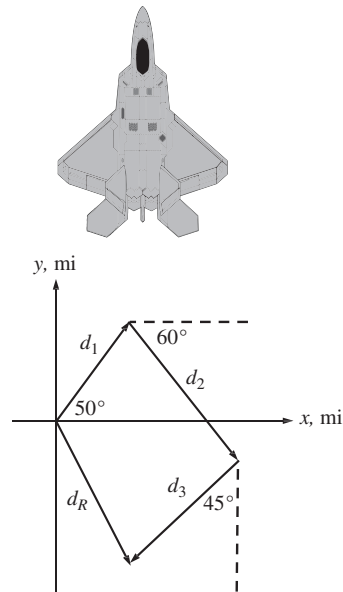

Figure P4.17 Position of an F-22 fighter jet.
- 4-17.** An F-22 fighter jet charts a course that has three different legs, as shown in Fig. P4.17. In the first leg, it flies 50° north-east a distance of $d_1 = 400$ miles. In the second leg, the jet flies 60° southeast a distance of $d_2 = 500$ miles. In the third leg, the jet heads 45° west of south for $d_3 = 450$ miles.